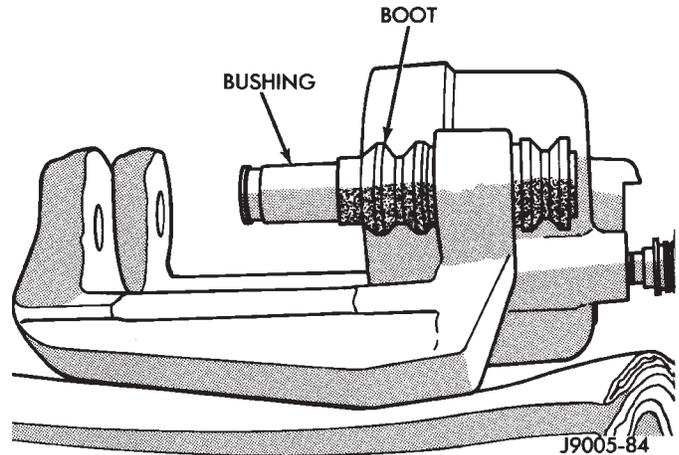

Fig. 70 Bushings And Boots Installation
(1) Lubricate caliper piston bore, new piston seal and piston with clean brake fluid.
(2) Lubricate caliper bushings and interior of bushing boots with silicone grease.
(3) Install bushing boots in caliper, then insert bushing into boot and push bushing into place (Fig. 70).